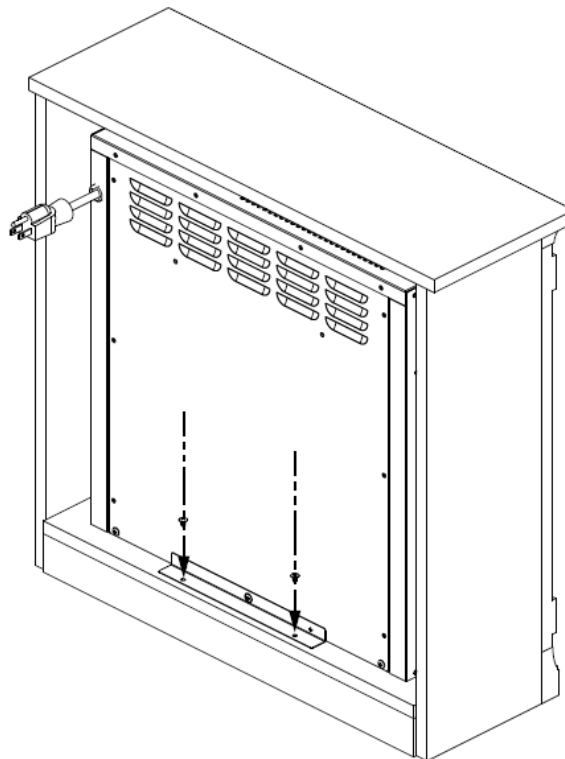

Fig.4
STEP 4. Fasten the appliance on mantel with two pcs of 4x12mm screws (B), see Fig.4